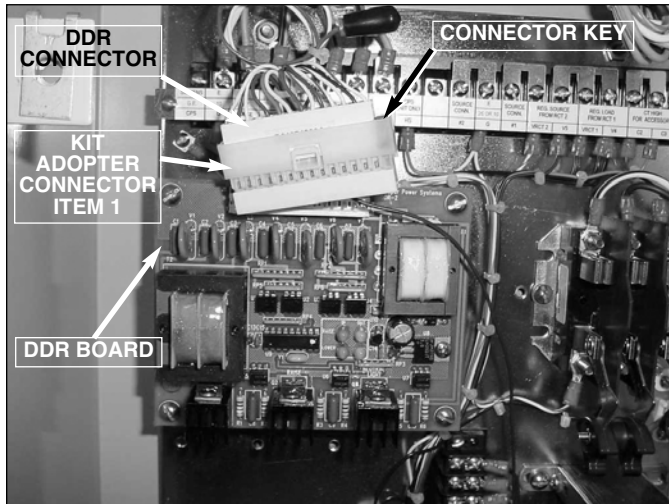

Figure 3.
4. Connect the Kit wire harness connector Item 1 to the existing DDR connector and harness (See Figure 3). Be sure pin alignment are correct, the kit adopter connector will have the connector key on the right hand end, once the two connectors are mated (See Figure 3).